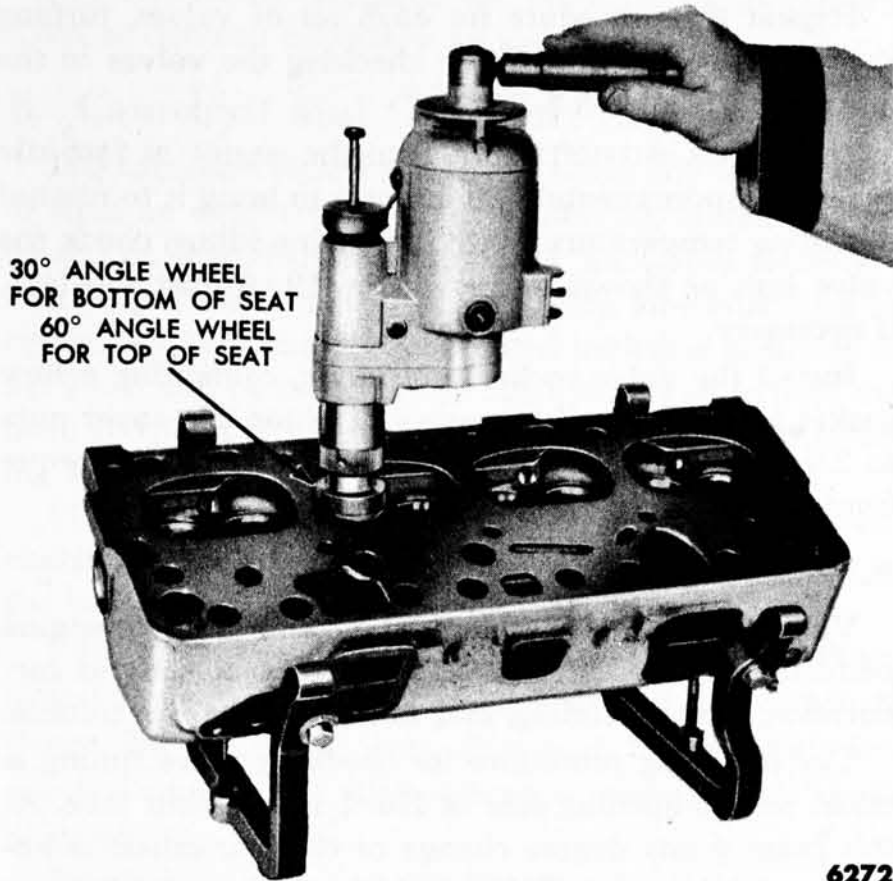

Fig. 16—Refacing Valve Seat
(3) **REFACING VALVE SEATS.** Grind the valve seat with a grinder (fig. 16). Remove only enough stock to clean up pits or grooves in the seat. If the valve seat width exceeds specifications (fig. 17), remove just enough stock from the top and bottom edge of the seat to reduce the width. Use a 30° angle wheel to remove stock from the bottom of the seat and a 60° angle wheel to remove stock from the top. Keep the seat as near to the center of the valve face as possible.